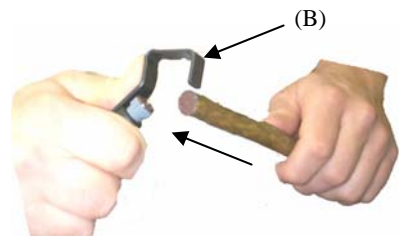

Fig.2
Step 2. (Fig. 2) With thumb on the back of upper jaw frame (B), push upper jaw outward, insert cable at desired position and release upper jaw.